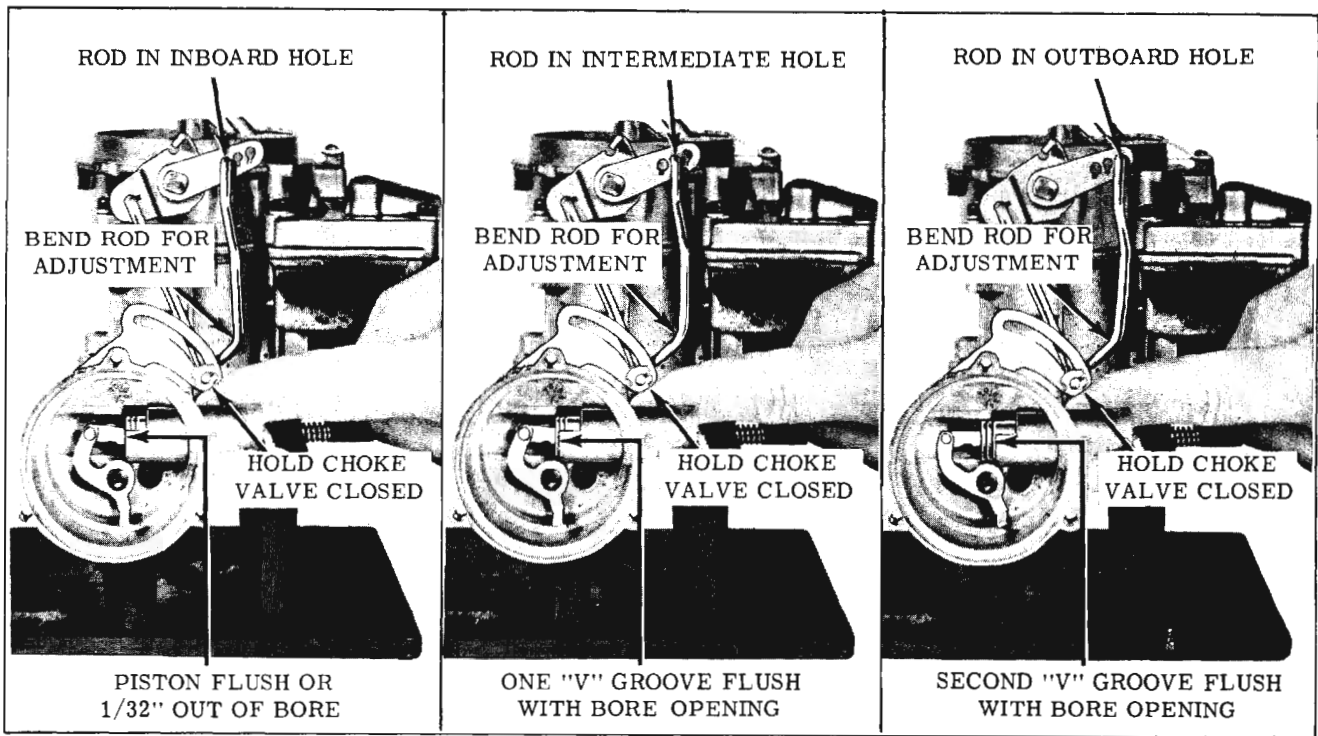

Fig. 9-45 Intermediate Choke Adjustment
1. Adjust the intermediate choke rod as outlined in Fig. 9-45.